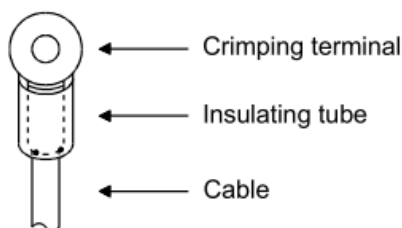

Figure15.2.1
- (1) Before connecting to the servo drive, the ground wire (green and yellow wire, 15 AWG) must be crimped with M4 ring terminal (with insulating tube) to prevent contact with adjacent terminal. Refer to figure 15.2.1.